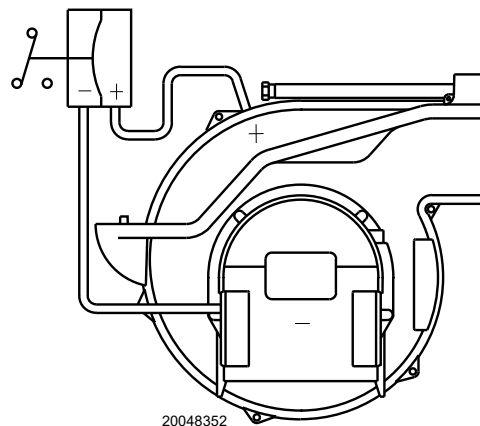

Fig. 28
- Adjust the air pressure switch (Fig. 28) to the start of the scale.
The air pressure switch is connected in differential (see Fig. 28) and is activated by both the negative pressure of the air intake and the air pressure from the fan.